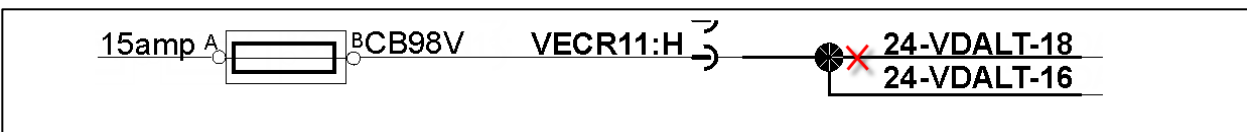

Figure 5: VDALT SPLICE
- 1.5 Cut the # 18 wire at the splice point. (Figure 5)
- 3.5 Loosen negative terminal with the 4/0 cable only, using a 14mm socket and a wrench (figure 5).